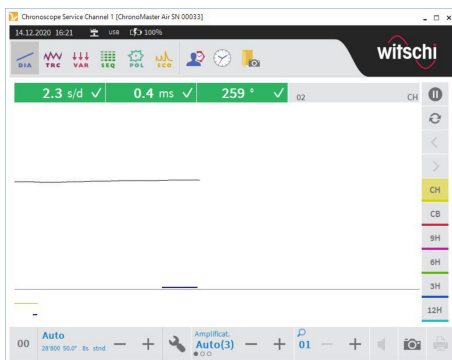

Fig. 14: The measuring process starts automatically
- The measuring process starts automatically (Fig. 14).